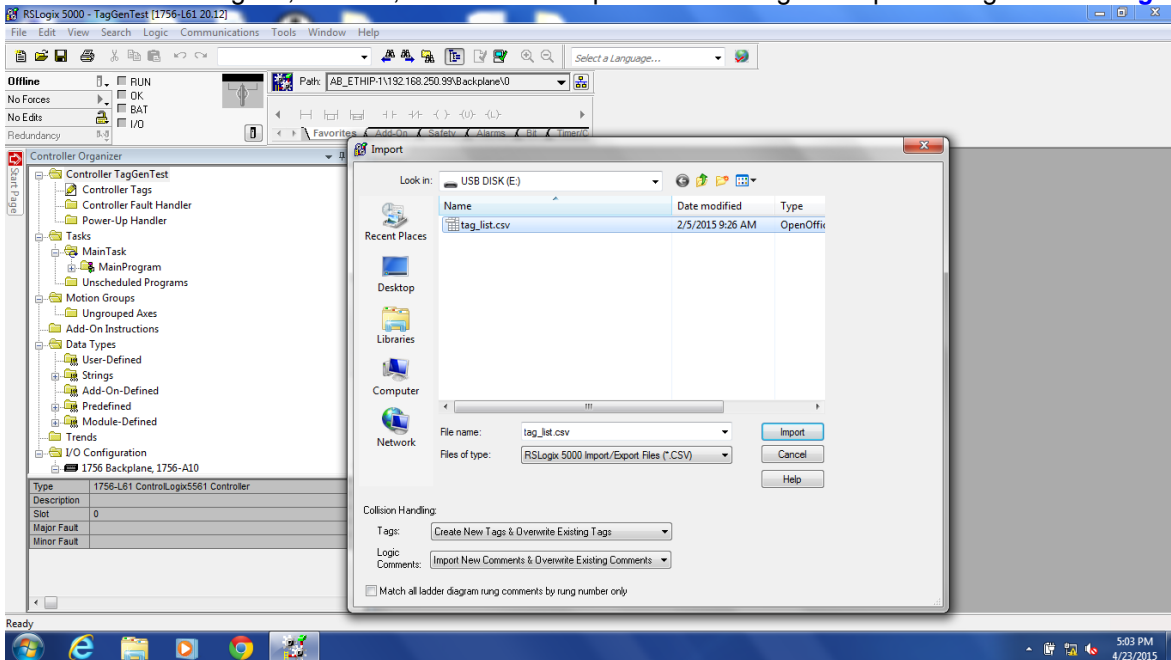

Figure 15 Select the *.CSV file for import
3. Browse to the *.CSV tag file, select it, and click the Import button using the Import dialog. Refer to Figure 15.